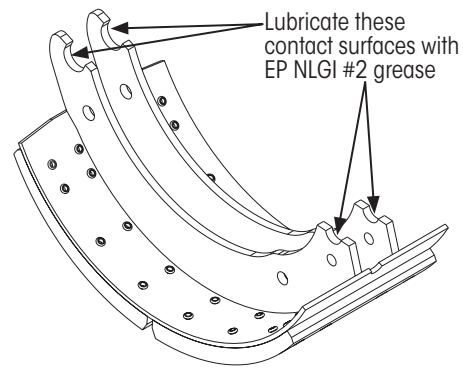

Figure 43: Pre lubricating brake shoe contact surfaces
4. Pre lubricate brake shoes as indicated in Figure 43.
1. Pre-lubricate brake shoes as indicated in Figure 43 on page 30.